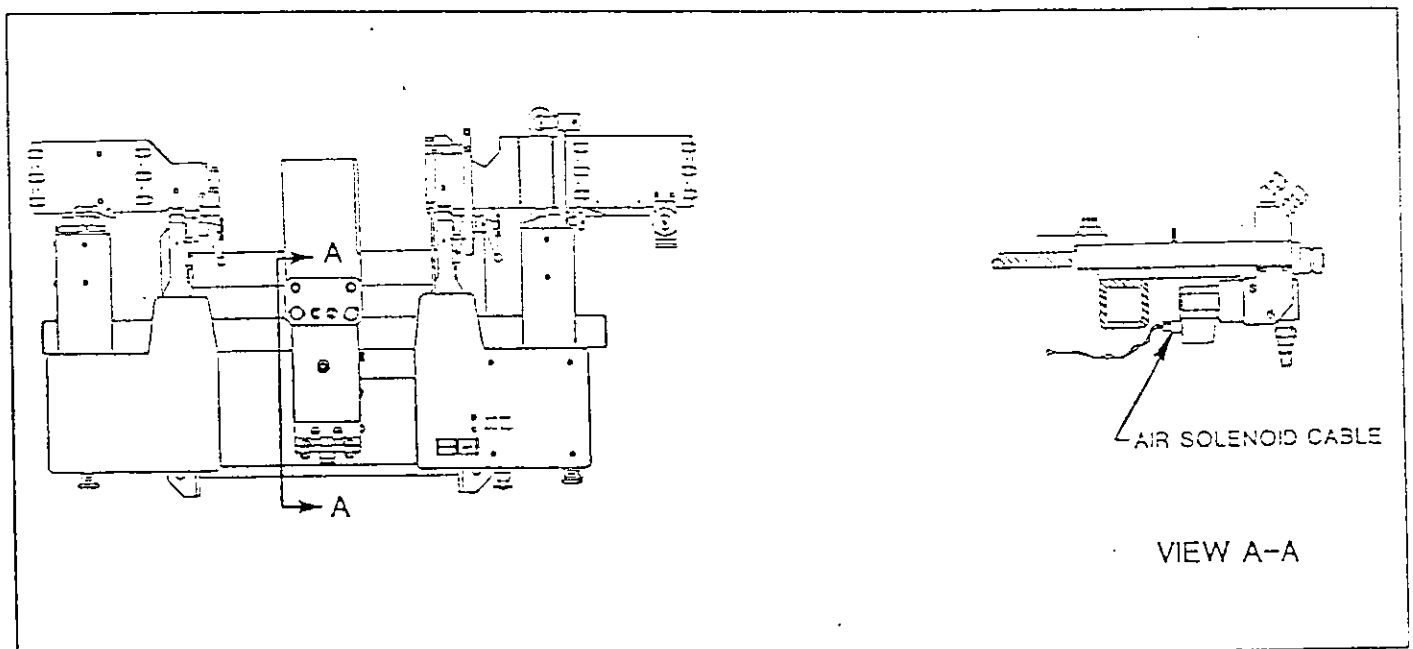

Figure 1-8
STEP 3: Connect air solenoid cable from input module to air solenoid as shown in Figure 1-8.
STEP 4: Install die switch on strip feed as shown in Figure 1-8. Tighten base screw with the 1/4" ball driver (driver is included with strip feed).